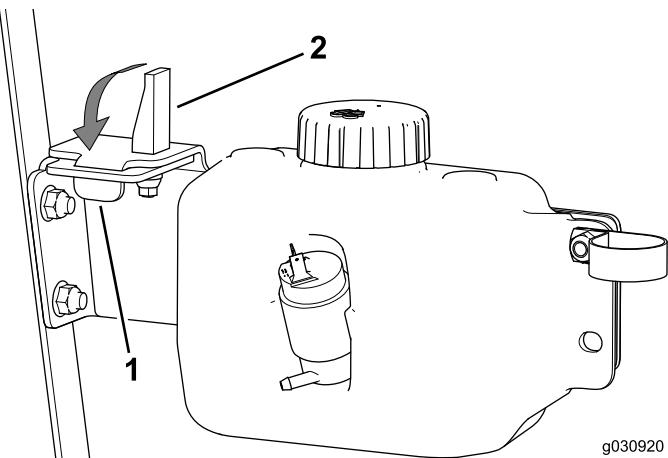

Figure 36
5. Insert the tab into the slot and the swell-latch bushing into the hole in the tank plate (Figure 36).
6. Flip the swell-latch lever down (Figure 36).